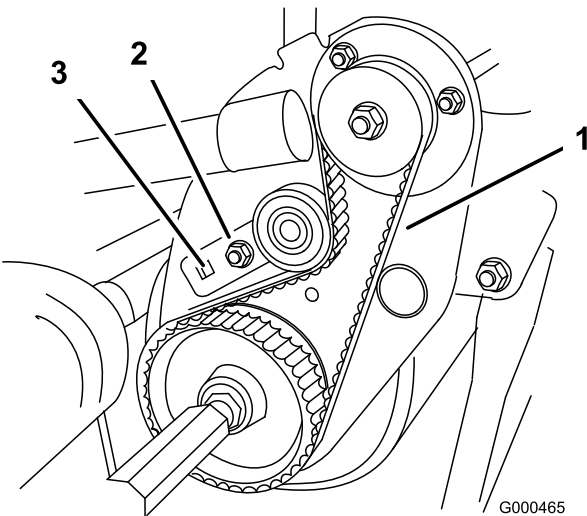

Figure 43
- B. Using a 3/8 inch drive torque wrench, rotate the idler bracket with 35-40 in.-lb. of torque to set the belt tension (Figure 43). While holding the torque wrench setting, tighten the idler bracket mounting bolt (The tang washer is installed to prevent the belt from slipping). Do not over-tension the belt.